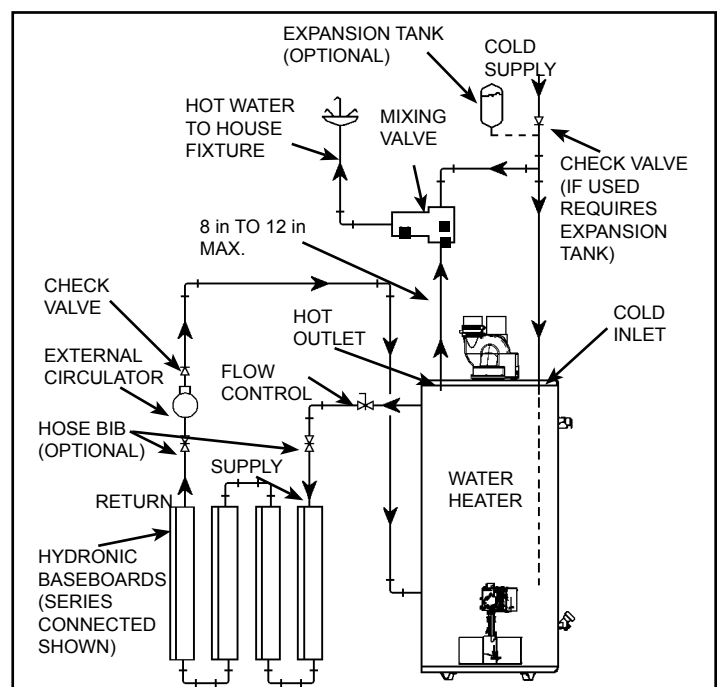

Figure 43
- B. A hydronic baseboard (finned tube) loop/in floor heating (Figure 43).